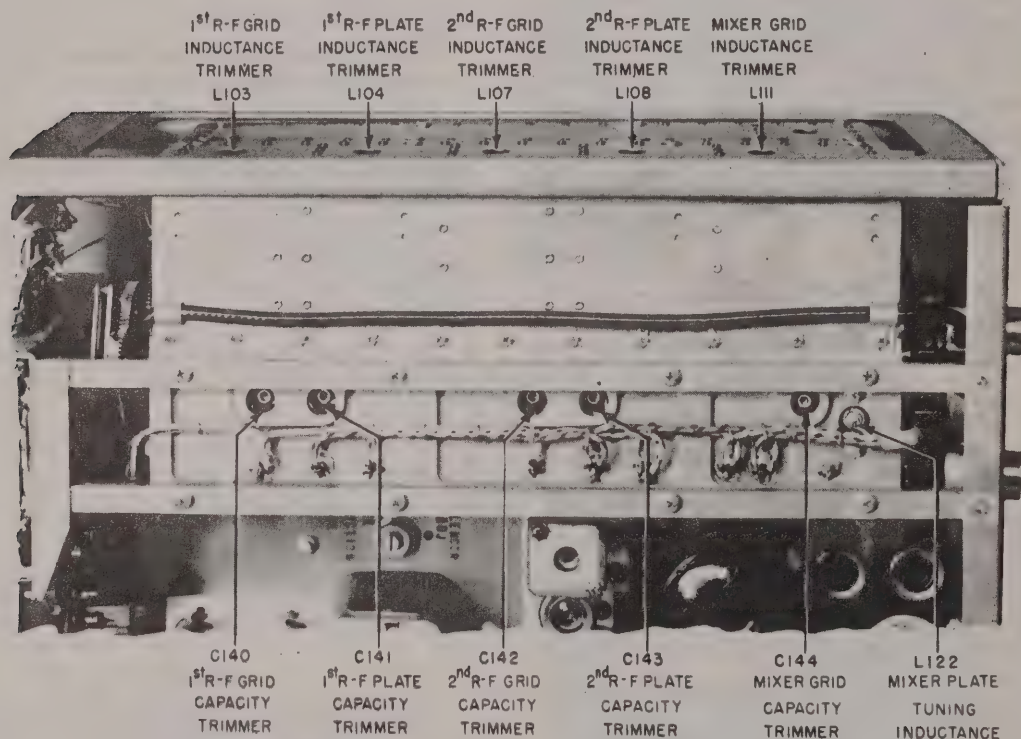

Figure 7-4. Preselector from Top of Chassis Showing Alignment Adjusting Screws
(1) Connect the output of a Navy model LP series, or equivalent, signal generator to the mixer grid inductance trimmer screw (figure 7-4) through a 0.01 μ f mica capacitor.
(2) Turn the receiver tuning dial to 218 megacycles, throw the CRYSTAL-MANUAL switch to CRYSTAL, remove the crystal from the crystal holder and throw the ALIGN-REC. switch to REC.
(3) Throw the receiver POWER switch to ON and allow the receiver to warm up for about five minutes.
(4) Tune the signal generator to 18,615 Kc, ± 1 Kc, and modulate 50% with 1000cps.
(5) Turn the A.F. LEVEL control clockwise to its maximum position.
(6) Adjust the output of the signal generator until the OUTPUT meter (M502) reads above the noise level, but below 10 db.
(8) Tune the mixer plate tuning inductance screw (L122, figure 7-4) for a maximum reading on the OUTPUT meter.
(3) Refer to figures 7-4, 7-8 and 7-9 for location of preselector tuning adjustments and test points. Place the probe of the electronic multimeter on the 1st doubler grid test point (C122) and tune the oscillator inductance tuning screws (L114) for a maximum meter reading. Connect the return to the chassis of the receiver.